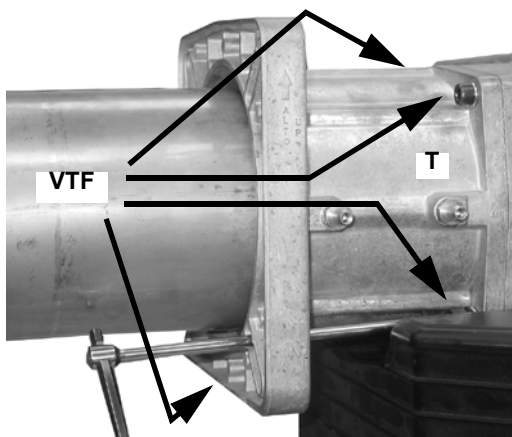

Fig. 8
- 2 Remove the flanged piece **T** by removing the 4 socket head screws **VTF** (Fig. 8).